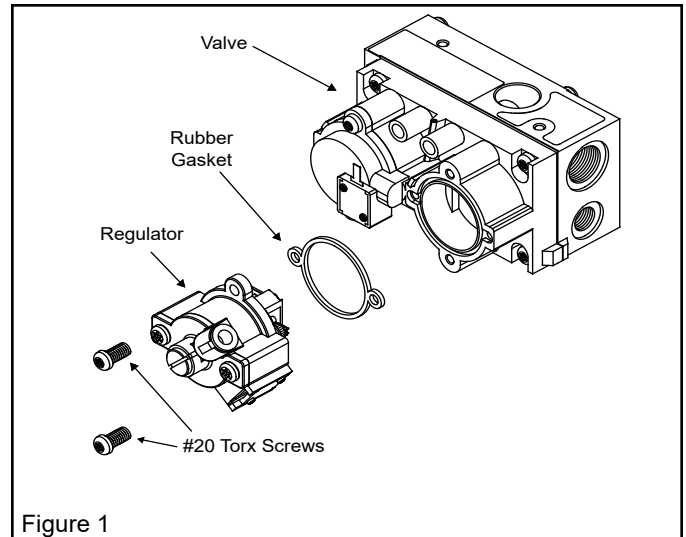

Figure 1
2. Using a #20 tamper-proof Torx screwdriver, remove the regulator and rubber gasket on face of valve. See Figure 1. Discard both the regulator and rubber gasket.